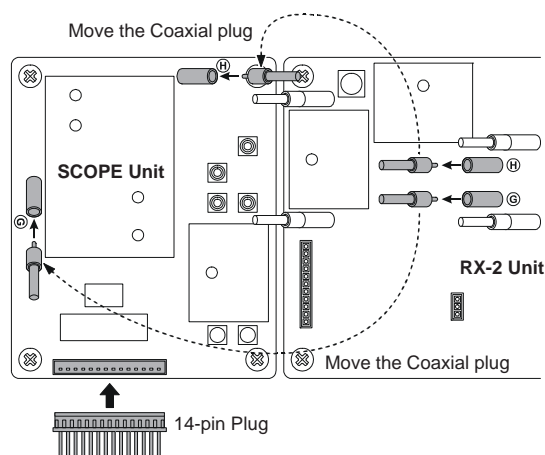

FIGURE 4
6. Locate the Coaxial plugs (labeled ⊙ and ⊕) installed in jacks (J4508 and J4507) on the RX-2 Unit. Unplug the Coaxial plug (⊙) from the RX-2 Unit and plug it into J7003 on the SCOPE Unit. Unplug the Coaxial plug (⊕) from the RX-2 Unit and plug it into J7001 on the SCOPE Unit (Figure 4).